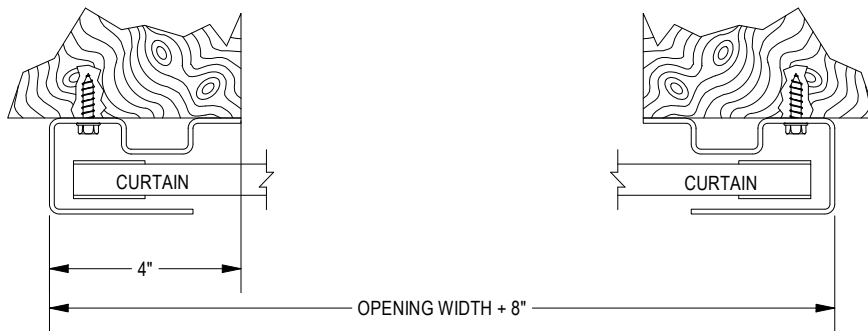

FIGURE 10: WOOD JAMBS
- ▶ **WOOD JAMBS:** $\frac{1}{4}$ " X 10 X 2" LAG SCREW. **SEE PAGE 9 FIGURE 10.**